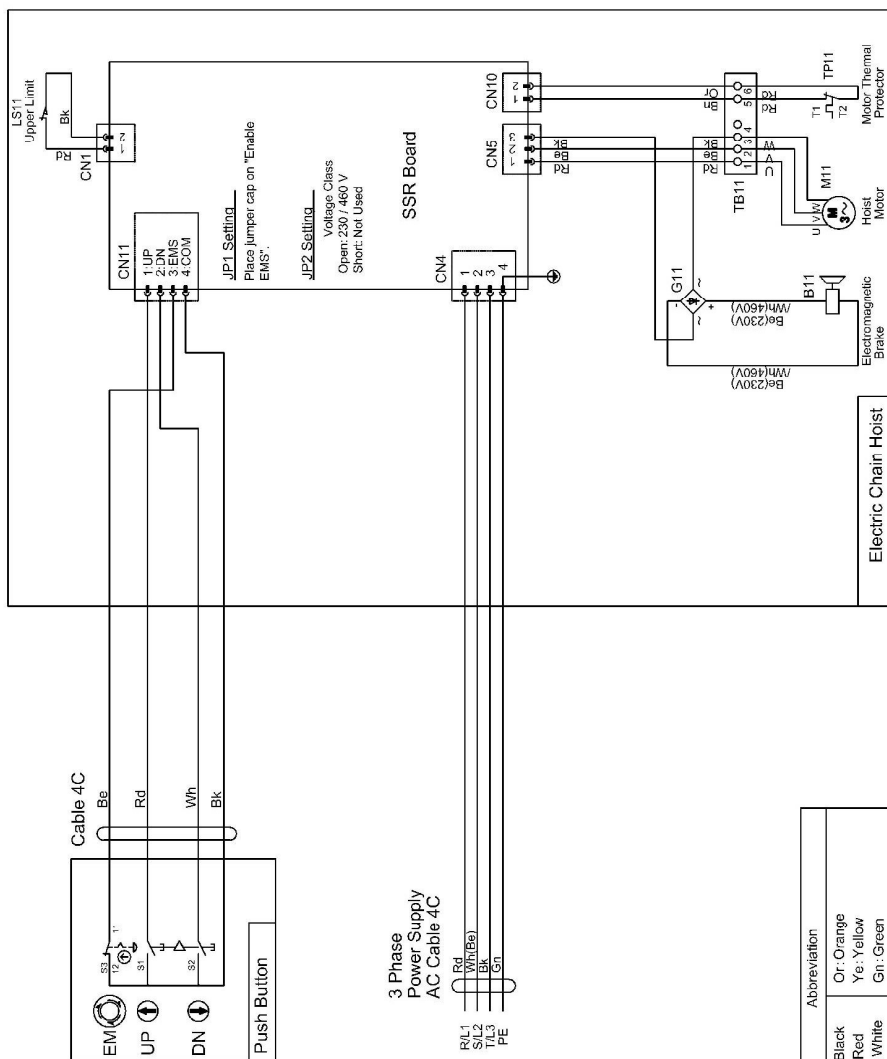

Figure 3-8 3-Phase EM Wiring Diagram
- 3.5.8 The Wiring Diagram is accessible from the QR code label located as shown in **Figure 3-7**. Wiring Diagram for EM (**Figure 3-8**) or SEM (**Figure 3-9**) will be displayed.